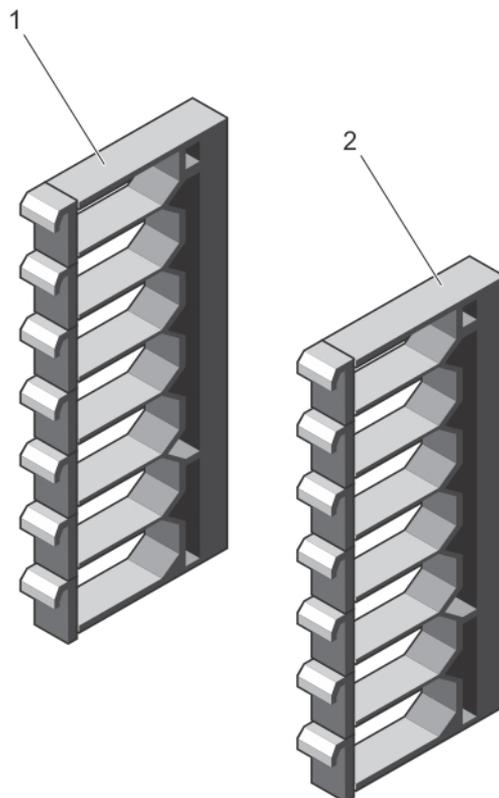

Figure 25. Cable Management System
The cable management system consists of two brackets (items 1 and 2 in Figure 25) and is shipped as part of the C9010 base configuration. The two brackets are identical. Install them on the right and left chassis flanges.